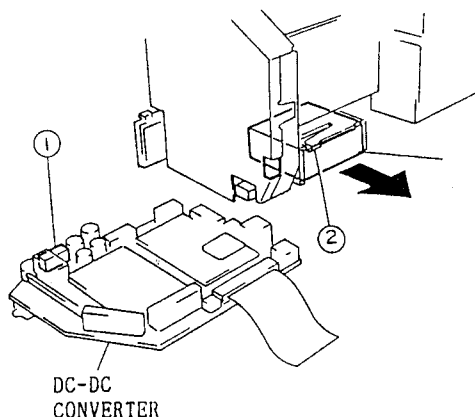

Fig. 2-30
1. Disconnect connector CN206 on the process circuit board. (See Fig. 2-30)
2. Release one (1) tab and pull out the DC-DC converter in the direction of the arrow.